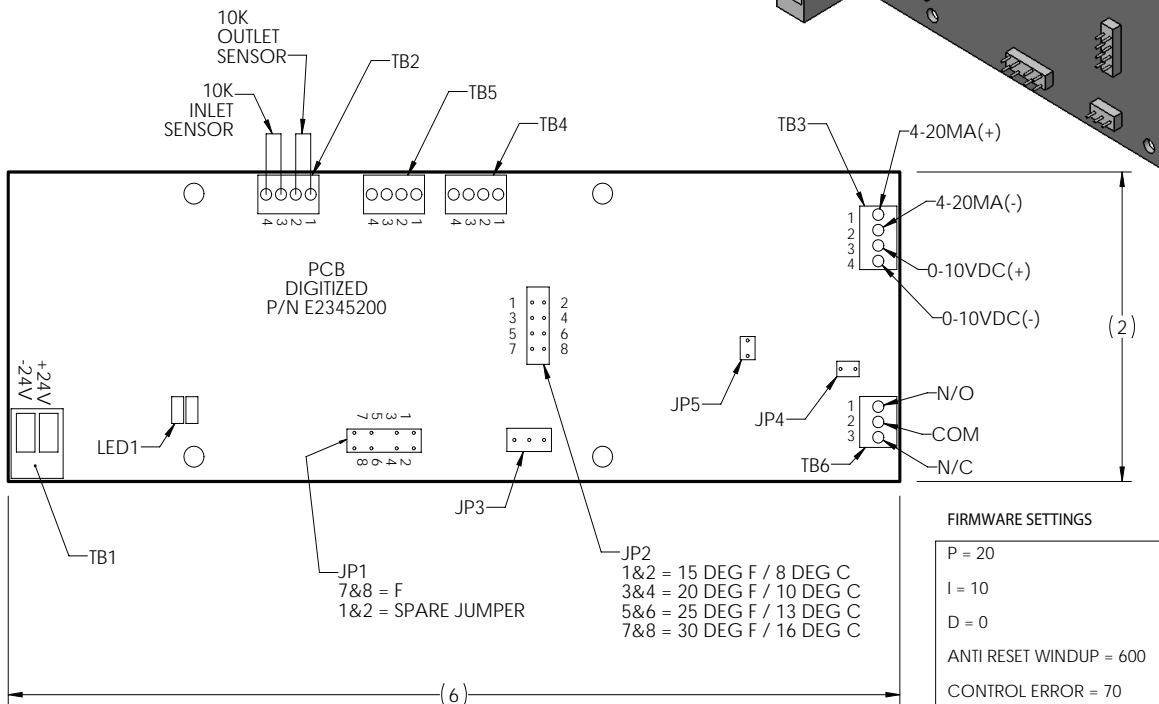

Figure 44. VARI-PRIME® Digital Circuit Board
1. The desired Delta T can be set to any of the following values by moving or adding jumpers to the JP2 terminal on the control: See Figure 44
2. As shipped, the VARI-PRIME has a jumper on the JP4 terminal, to operate a 0-10 VDC output. If a 4-20 mA output is needed, move the jumper to the JP5 terminal. Figure 44